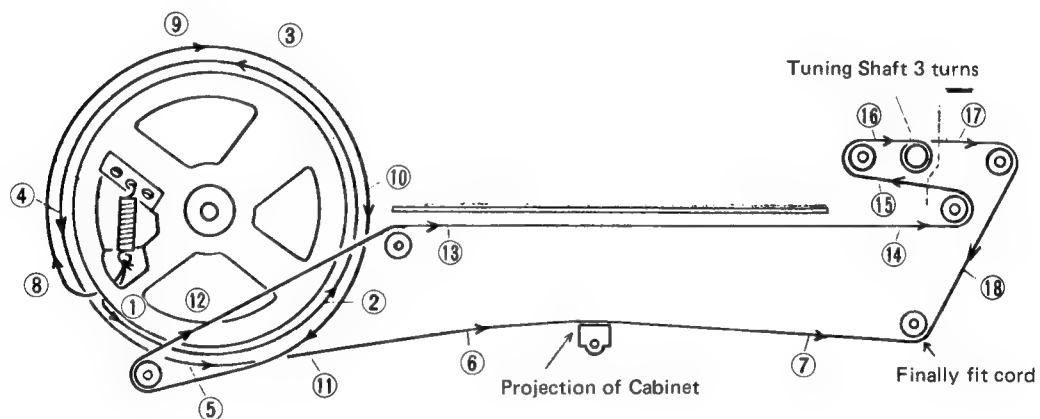

Fig. 29
- Fit the cord in numerical order as shown in Fig. 29.